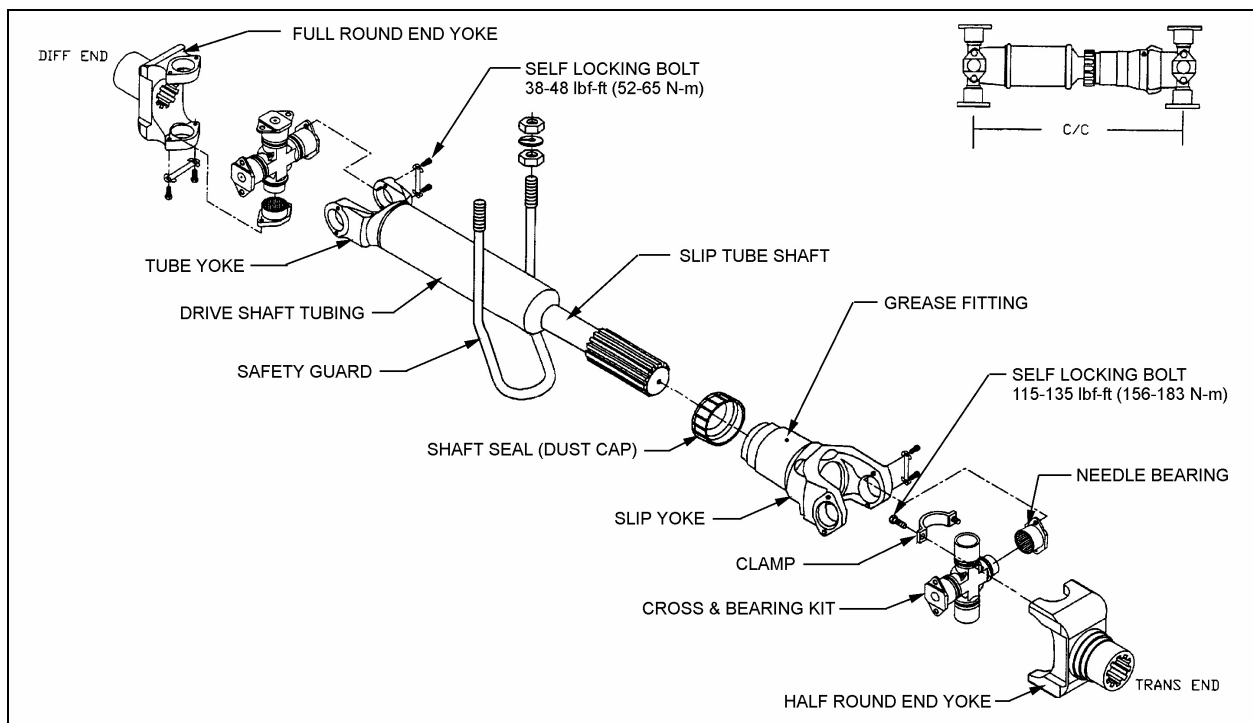

FIGURE 1: PROPELLER SHAFT ASSEMBLY
| FIGURE 1: PROPELLER SHAFT ASSEMBLY ..... | 2 |
The propeller shaft transmits power from the transmission to the differential (Fig. 1). Refer to paragraph "6. SPECIFICATIONS" at the end of this section for propeller shaft length. The propeller shaft is "Dana 1810" type with tubular shafts. It is provided with two heavy-duty universal joints (Fig. 1).
- Screw bolts to the specified torque (Fig. 1).